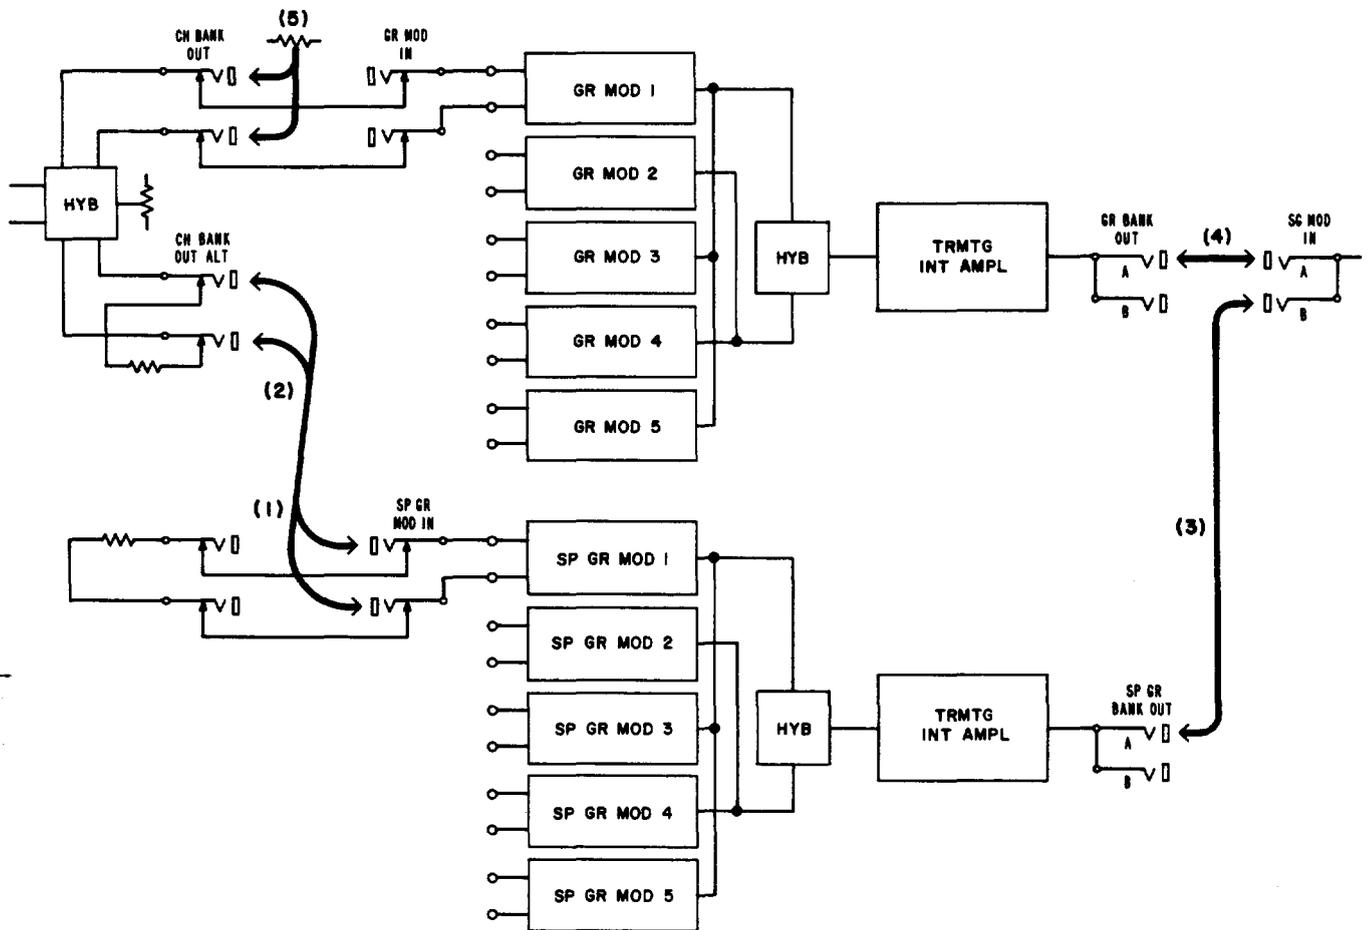
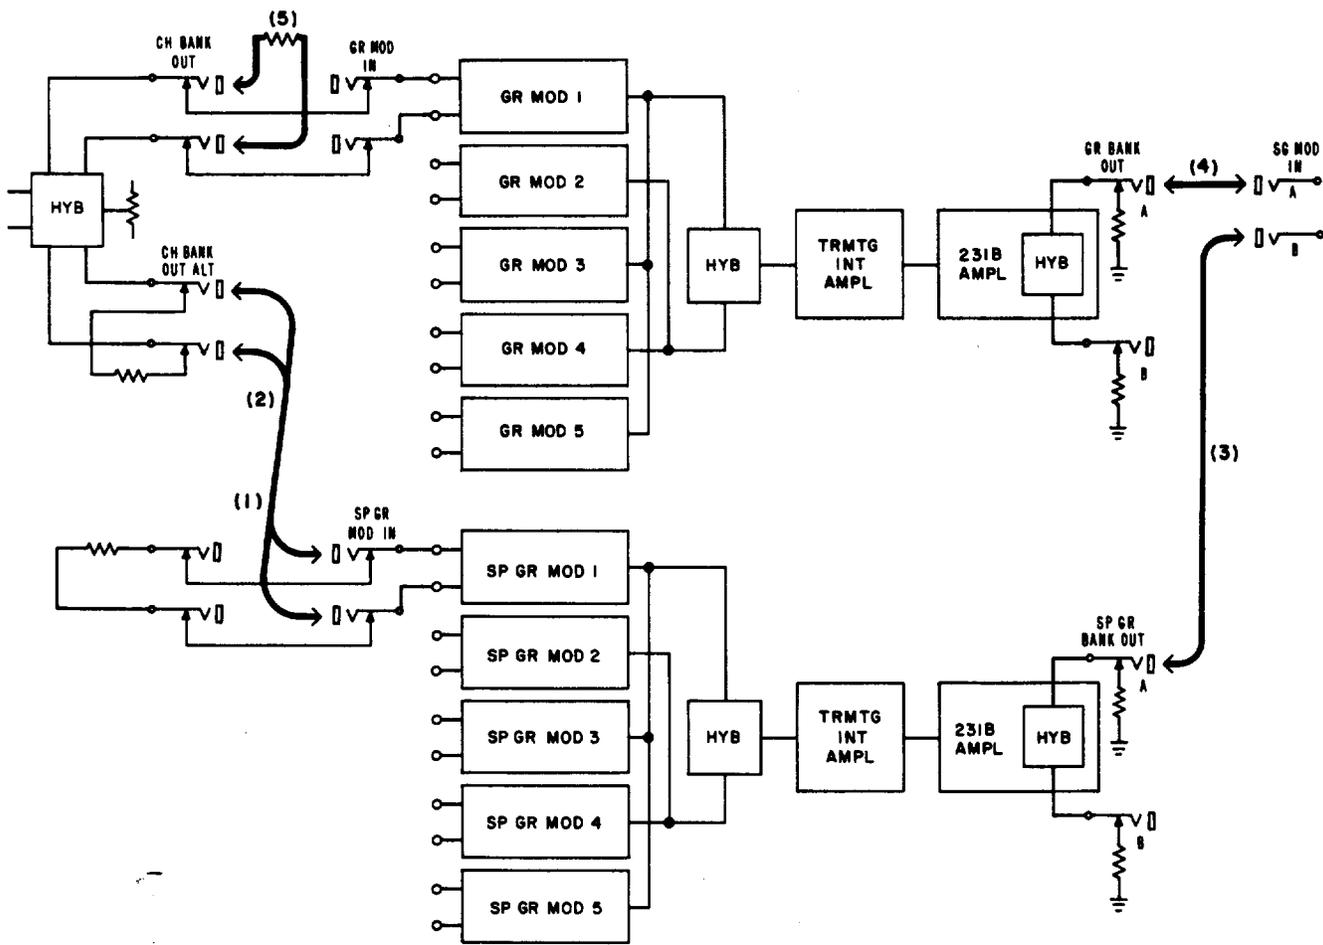

Fig. 1—Patching Unmodified Transmitting Group Banks
Fig. 2—Patching Transmitting Group Banks Modified for In-Service Testing
1.02 This section is reissued to correct 3.11, Step 7, and Fig. 6. BSP references in the test procedure and Fig. 1, 2, and 3 are also corrected. Marginal arrows are used to indicate changes. *Equipment Test Lists are not affected.*
**3.05** Figure 1 illustrates a transmitting group bank that is not modified for in-service testing, and Fig. 2 illustrates a modified transmitting group bank. Both figures are included for reference to provide additional information for those sections referred to in the following procedure.
| 3 | Patch each SP GR MOD to each corresponding CH BANK OUT ALT jack (see Fig. 1 or 2) by first making patch (1) to the SP GR MOD IN jacks and then patch (2) to the CH BANK OUT ALT jacks. |